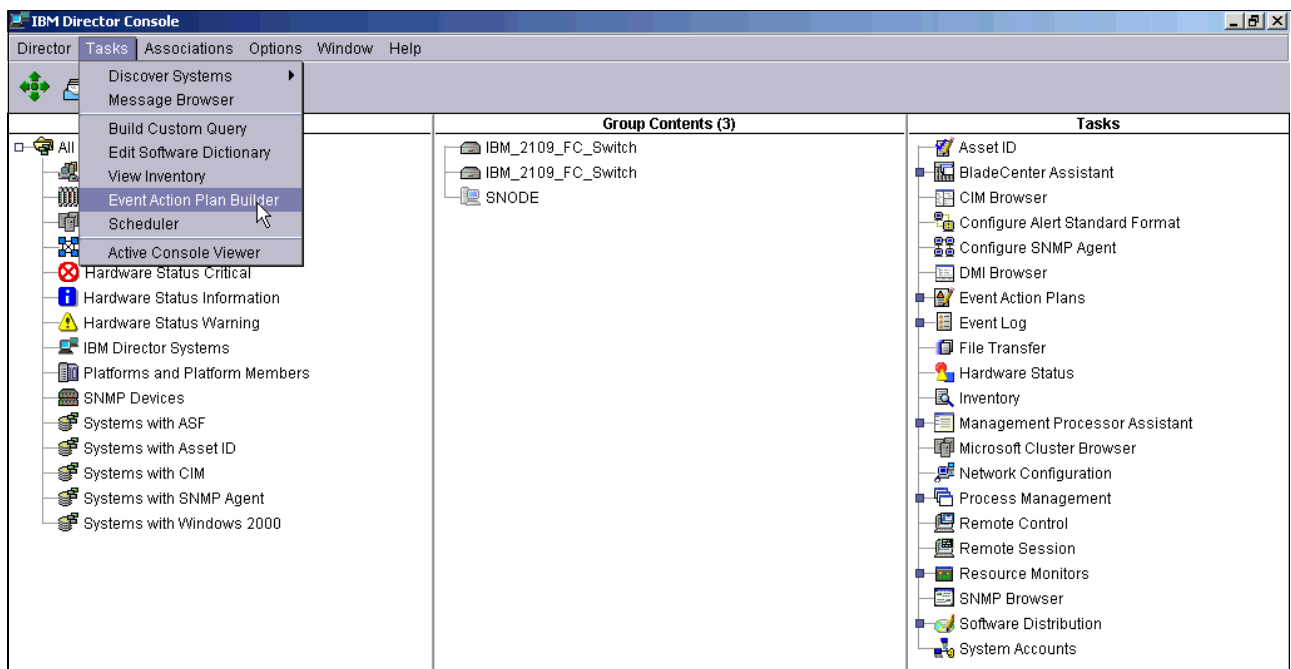

Figure 14-31 Director Action Plan Builder
- With the Director console application launched, select **Task -> Event Action Plan Builder**, as shown in Figure 14-31.